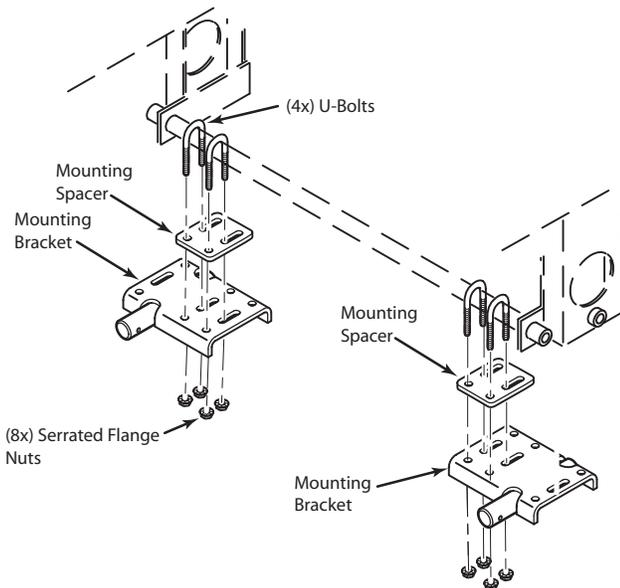

FIGURE 3-3
- Attach the mounting brackets to the cross bar between the wheel motor brackets using (4) u-bolts and (8) serrated flange nuts. See Figure 3-3. Do not tighten the hardware.
- The edge of the mounting bracket should be under the wheel motor mounting plate for proper installation. See Figure 3-3.